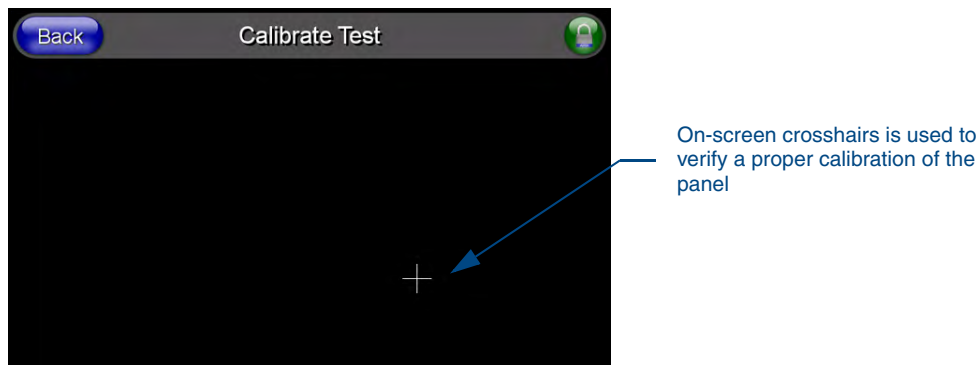

FIG. 78 Calibration Test page
1. Press and hold down the on-screen **Calibration** button for 6 seconds to enter the Calibration Test page (FIG. 78).